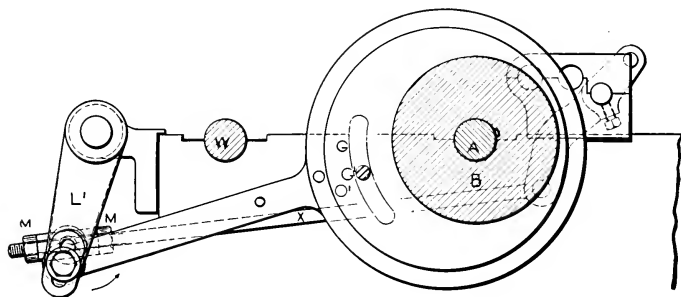

FIG. 6.
**Time.** At index 20, set the eccentric O1 (Fig. 6.), by means of the screw G1 and the slot G, so that the